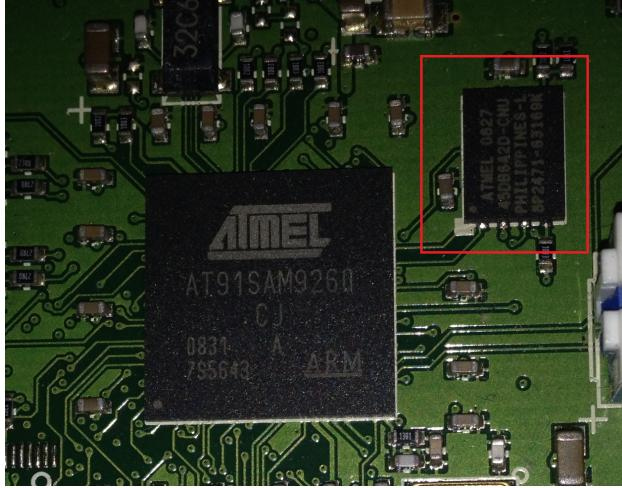

Figure 2: AT91SAM9260 processor and AT45DB642D DataFlash
2. Rather than the 8 MB referenced in item 6, the DS9260 has an AT45DB642D 64 MB DataFlash IC (Fig. 2).